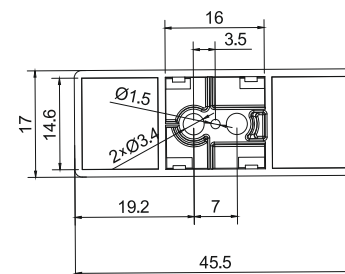

Fig.3
- As Fig.3 shown, stick the detector on the back of the mirror to ensure it is firmly connected to the controller.